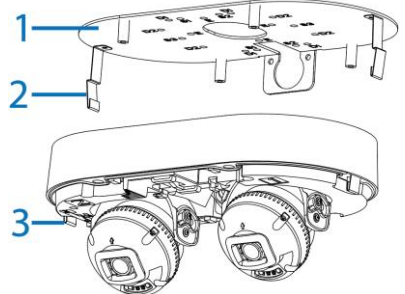

Figure 2
4. Hold the camera base up to the adaptor plate (1) (Figure 2) and insert the power cables through the rubber insert on the camera base and then into their respective ports on the camera base *if the cables are routed through the hole on the surface.*
5. Align the two clips (3) (Figure 2) with the two springs (2) (Figure 2) and then push the camera base up into the adaptor plate so that the two clips sit into the two springs and the camera base is securely attached to the adaptor plate.